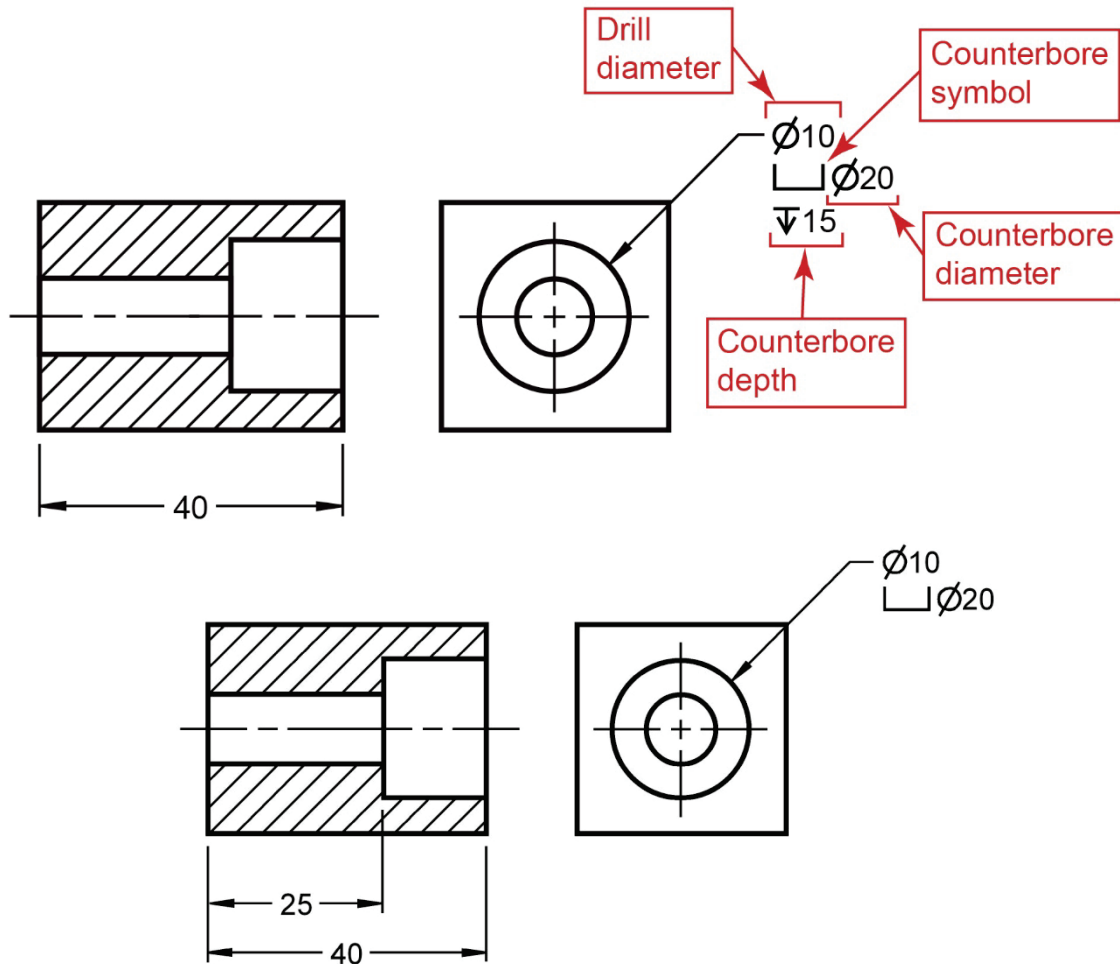

Figure 7.4-11: Counterbored holes.
- n) Counterbored holes are specified by giving the diameter (\varnothing) of the drill (and depth if appropriate), the diameter (\varnothing) of the counterbore (\sqcap), and the depth (∇) of the counterbore in a note as shown in Figure 7.4-11. If the thickness of the material below the counterbore is significant, this thickness rather than the counterbore depth is given.
What is the purpose of a counterbored hole? (See Figure 7.4-11.)